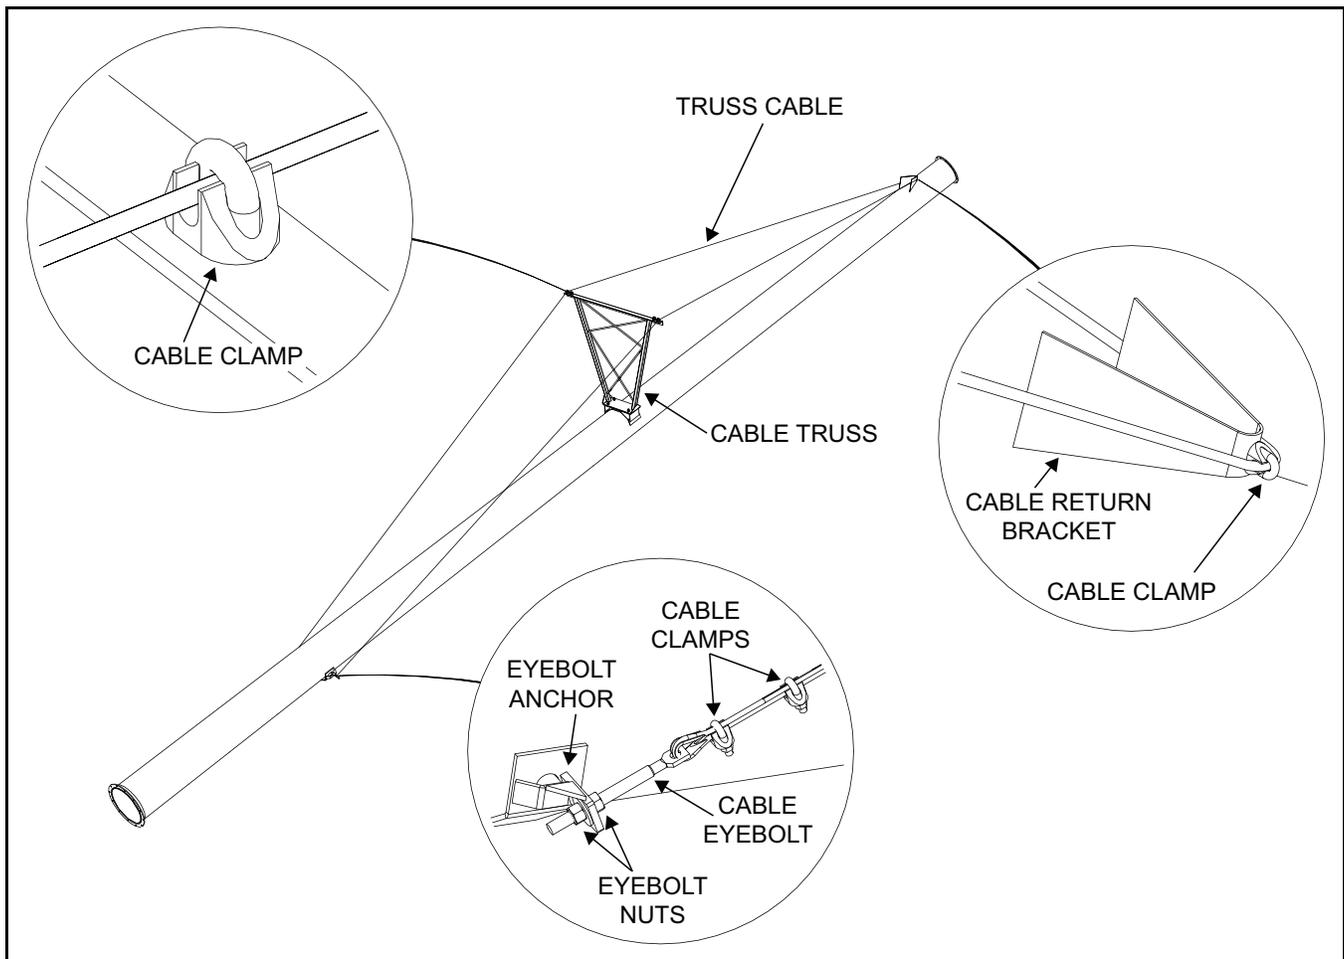

Figure 7.5 Typical Cable Truss Assembly
4. Locate the eyebolt anchors for the cable. Refer to Figure 7.5.
5. Tighten cable eyebolts evenly on both sides (use eyebolt nuts to tighten eyebolts) until the discharge end just starts to angle upward (see Figure 7.5).